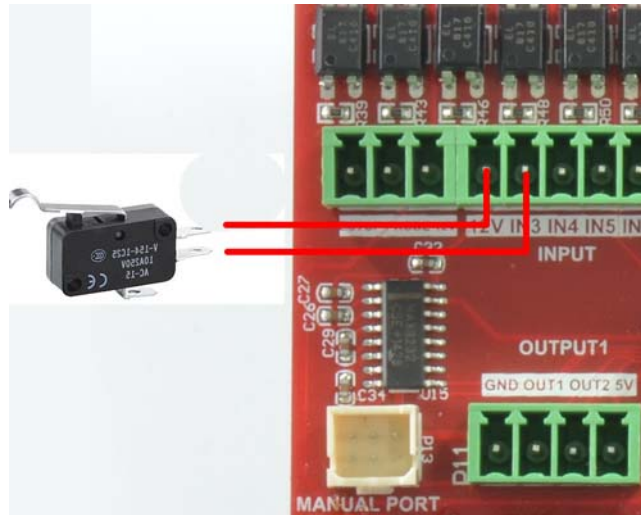
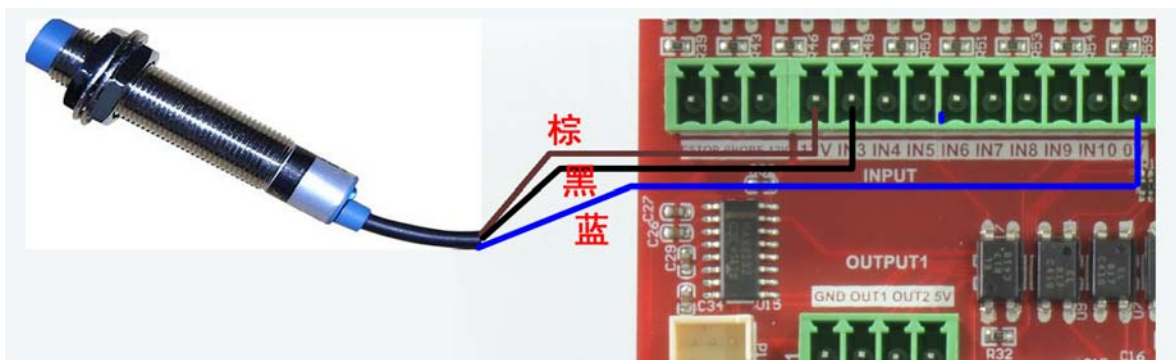

Figure2-9. microswitch wiring method
Figure2-10. 3-wire PNP proximity switch wiring method
- Q) Common input with optocoupler. It's defined as 12V/IN3/IN4/IN5/IN6/IN7/IN8/IN9/IN10/0V from left to right. They are PIN3/4/5/6/7/8/9/10 of PORT1# in mach3. 2-wire proximity switch and microswitch wiring method see as figure 2-9. 3-wire PNP proximity switch wiring method see as figure 2-10.